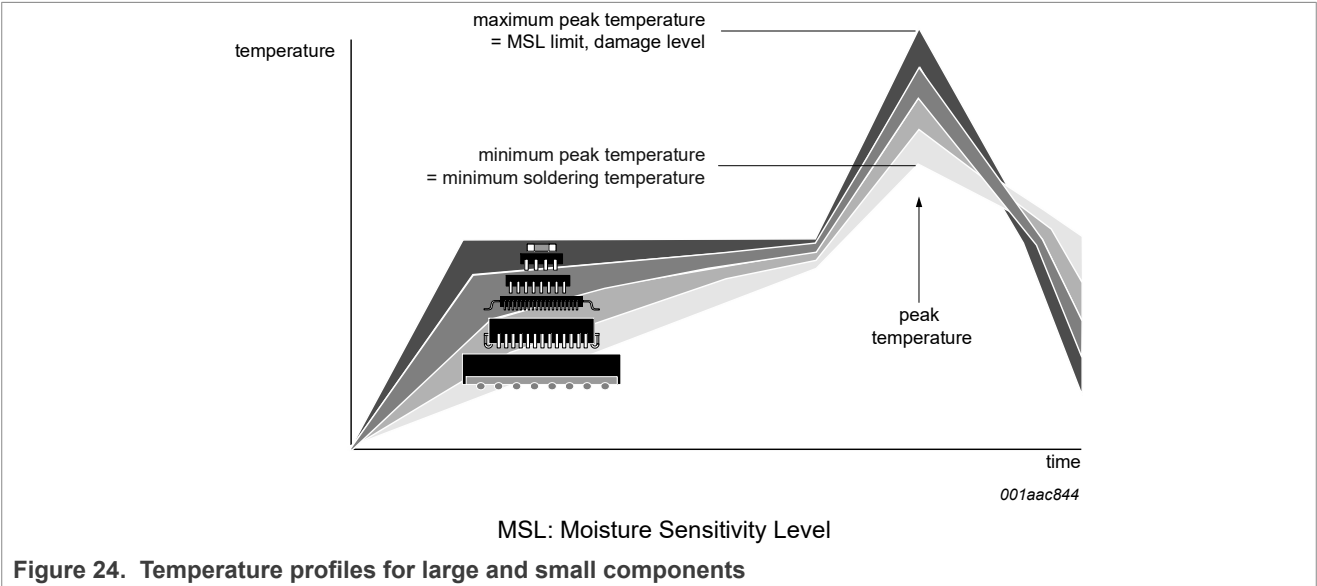

Figure 24. Temperature profiles for large and small components
- Lead-free versus SnPb soldering; note that a lead-free reflow process usually leads to higher minimum peak temperatures (see Figure 24) than a SnPb process, thus reducing the process window
Moisture sensitivity precautions, as indicated on the packing, must be respected at all times. Studies have shown that small packages reach higher temperatures during reflow soldering, see Figure 24.